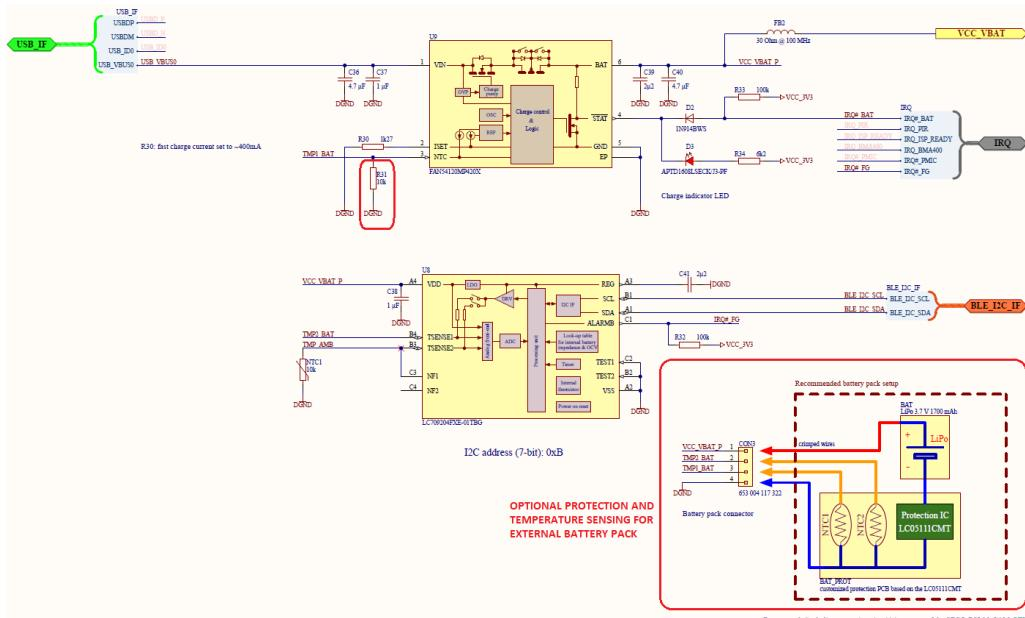

Figure 9. R31 = 10 k Ω to be Removed Once External Li Battery and its Protection Circuit Connected
1. Remove R31: the 10 $k\Omega$ resistor emulates the external NTC sensor. As the board is not delivered with a battery, this dummy resistive load must be connected towards FAN54120 (Figure 9).